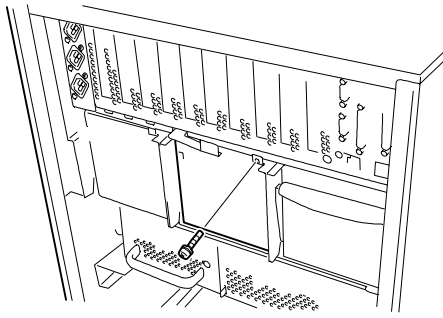

Figure 4-61. Removing the BSU Power Supply Bay Blank Cover
4. Remove the screw securing the blank cover of the bay where the additional power supply will be installed and remove the cover, see Figure 4-61.